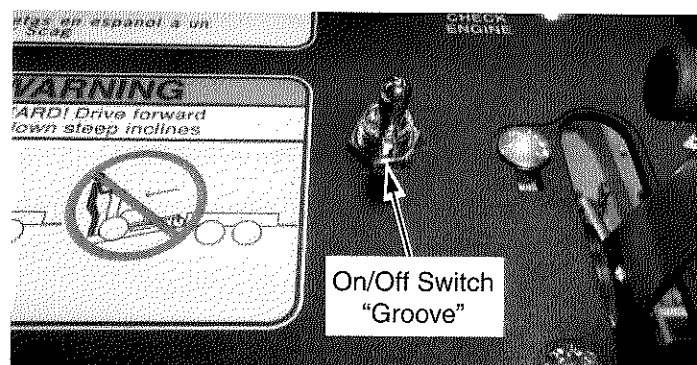

Figure 4. Install on/off Switch
5. Locate the light switch opening provided in the instrument panel and carefully cut the decal revealing hole. Insert light switch through panel with groove on the light switch facing the rear of the machine. Secure with nut and install switch boot. See Figure 4.